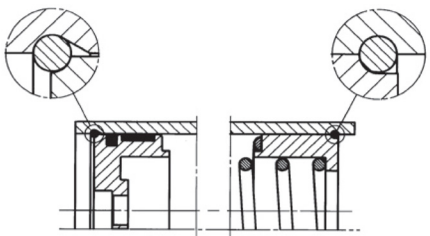

Fig. 9 – Position of locking ring
- 6 Place the spring guide (26) on the ends of the springs. If necessary, place a protective plate under the push- rod, and then press down the spring guide so that the entire locking groove is exposed.
- 7 Fit the locking ring (27) into the locking groove in the cylinder and then reduce the load very gradually until the locking ring has gripped the spring guide (see Fig. 9). Make sure that the spring guide is not misaligned in the cylinder.
- 1 If possible, place a spring-return actuator with the spring cylinder pointing upwards. Back off the nuts (53) gradually one turn at a time until all studs have been entirely relieved of load.
- 2 Withdraw the spring cylinder (24) straight up.